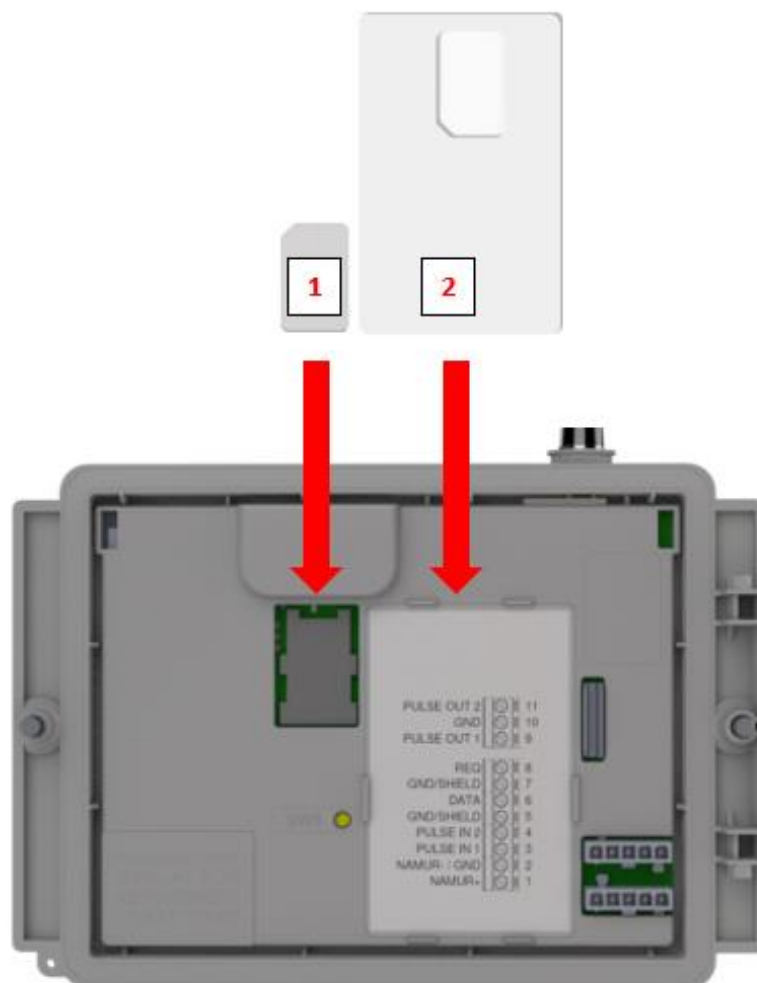

Figure 5: placement mini-SIM and SIM card
Press the metal-colored fastening of the mini-SIM holder with little force and turn counterclockwise, unlocking the mini-SIM holder and opening it. The mini-SIM can be placed with the gold contacts facing backwards and the beveled corner upwards (figure 5, item 1). Close the mini-SIM holder by performing the above-mentioned operations in reverse order.
Insert the SIM card as shown in figure 5, pos. 2.